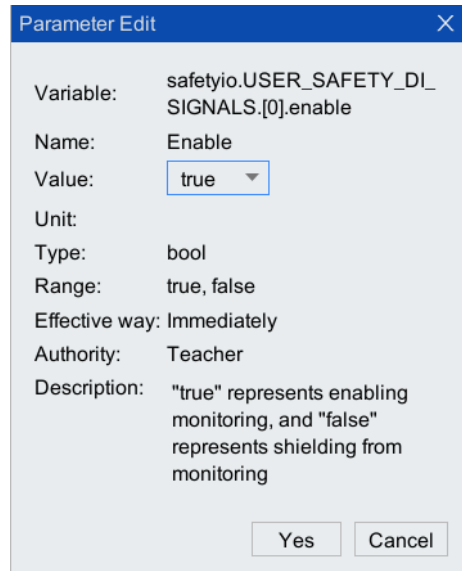

Figure 3-2 【 Enable DI signal 】 configuration interface
Step3. Click to select the row of [enable (enable DI signal)], click <Edit>, the configuration interface shown in Figure 3-2 will pop up, and set the parameter in [Value] to "true".